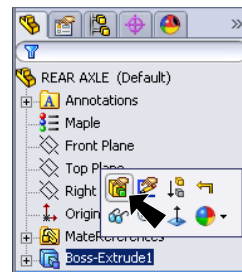

Fig. 15
Step 1. Click **Boss-Extrude1** in the Feature Manager and click **Edit Feature**  in the menu, **Fig. 15**.